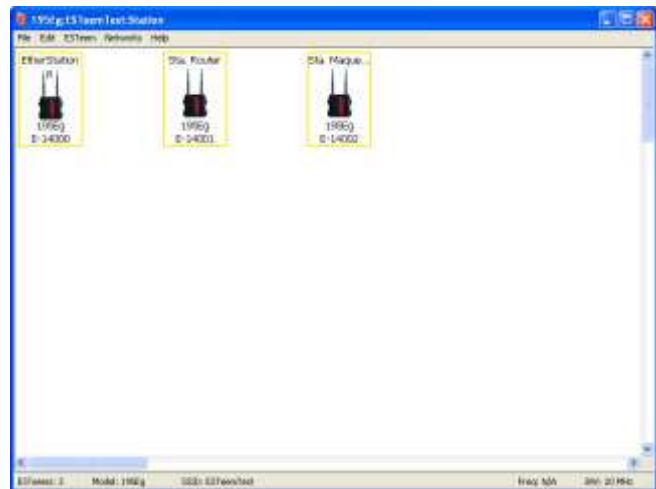

Figure 24: Station Mode Example Modems
2. Add the three mobile client modems to the ENC Utility configuration page as instructed above and set the Modem ID to match the three modes of operation. Your configuration will appear as in Figure 24.
**Technical Tip:** The ESTeem 195Eas in Mobile Client modes do not have a specific frequency of operation as can be seen in Figure 24.